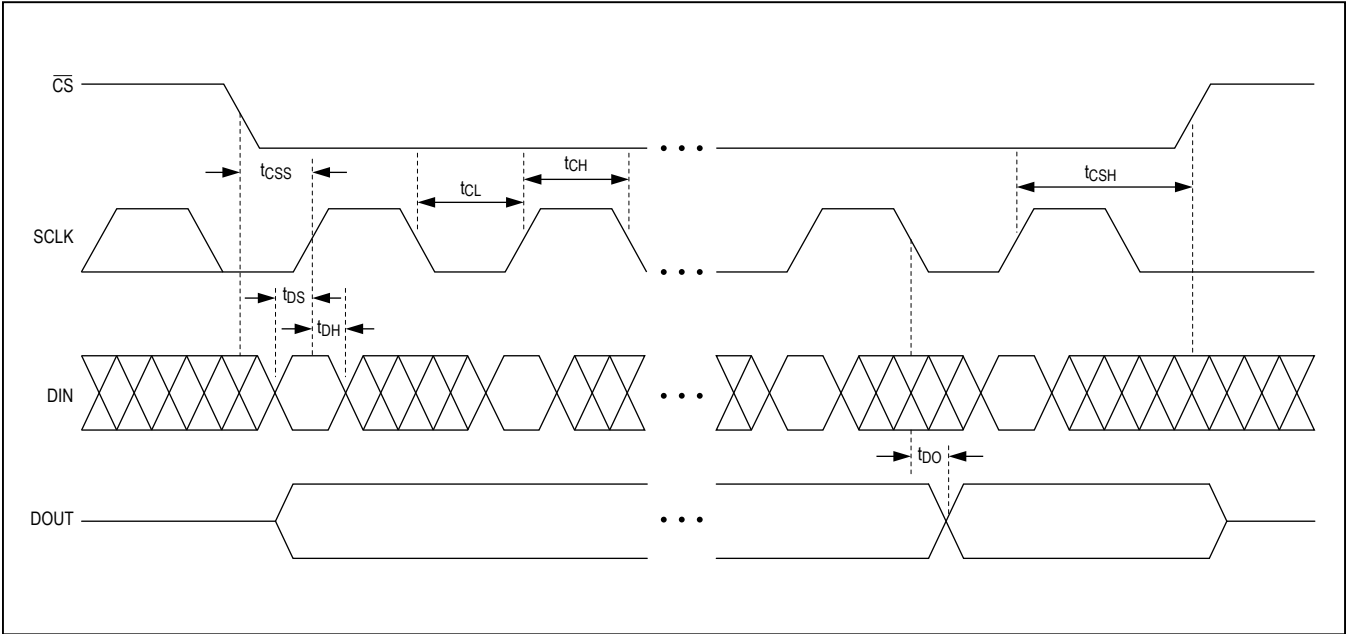

Figure 10. SPI Timing Details
switch. The switches are updated at the rising edge of \overline{CS} with the last 8 bits of data shifted in only if the number of bits clocked in is greater than or equal to the number of switches (8). The data on the DOUT pin represents the end of the shift register. This will output the contents of the shift register followed by the data being shifted in on the DIN pin. Please note that the data in the shift register may not be the same as the state of the switches if there were insufficient clocks at the last rising edge of \overline{CS} . See Figure 10 and 11 for the SPI timing diagrams.